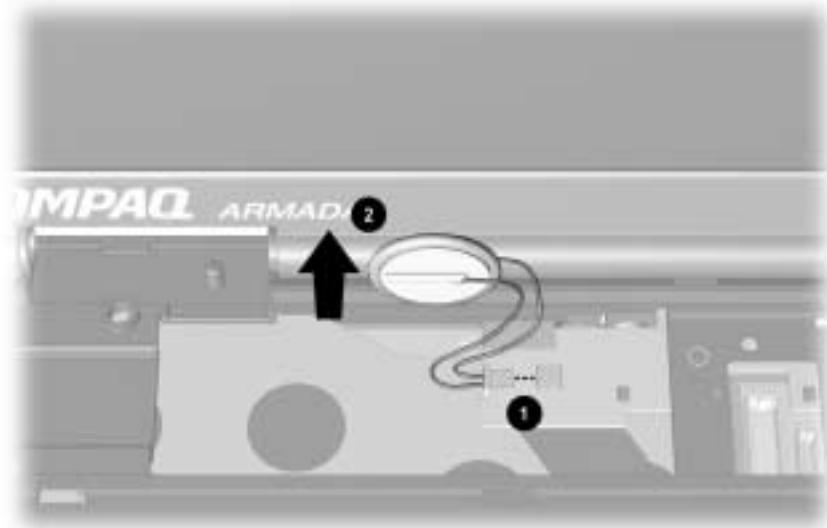

Figure 5-16. Removing the Real Time Clock Battery
3. Disconnect the RTC battery cable from the LED board ① (Figure 5-16).
4. Remove the RTC battery from the base enclosure ②.